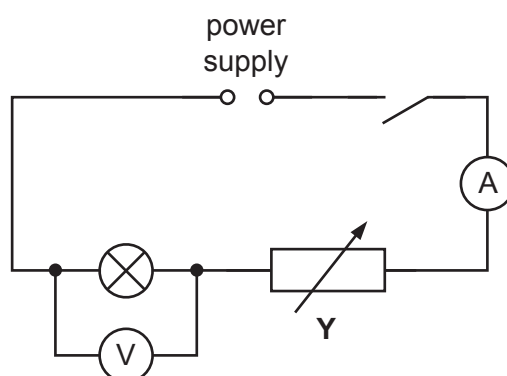

Fig. 5.1
5.1 The circuit shown in Fig. 5.1 must be set up for the candidates.